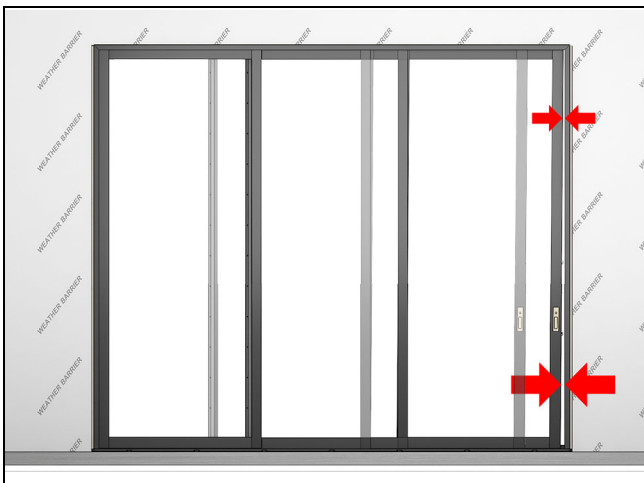

Figure 88
1. Move the operator panel toward the locking jamb until there is a slight gap. Check for an even reveal/gap between the panel and the jamb. See Figure 88.